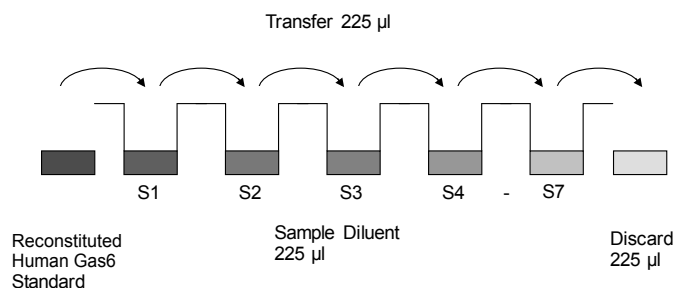

Fig. 6 Dilute standards - tubes
5. Repeat serial dilutions 5 more times thus creating the points of the standard curve (see Figure 6 on page 3).